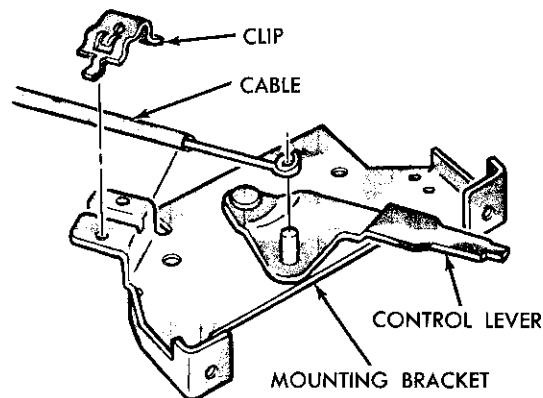

Fig. 2—Heater Control Cable Adjustment (Typical)
- (1) Disconnect battery ground cable.
- (2) Remove ash receiver and housing (Chrysler only).
- (3) Remove vacuum control switch, temperature control bracket and lower assembly through ash receiver housing opening.
- (4) Remove glove box to provide access to the heater temperature door.
- (5) Disconnect temperature control cable at heater.
- (6) At heater control assembly, position cable housing to edge of cable bracket (Fig. 2) and install clip.
- (7) Install temperature control bracket and secure vacuum control switch in place on temperature control bracket.
- (8) Place temperature control arm in extreme left position and connect cable to temperature control door crank on heater assembly while holding door in extreme right position. Install clip.
- (9) Install ash receiver and housing assembly.
- (10) Connect battery ground cable and test operation of heater controls. **For Heater Control and Switch**